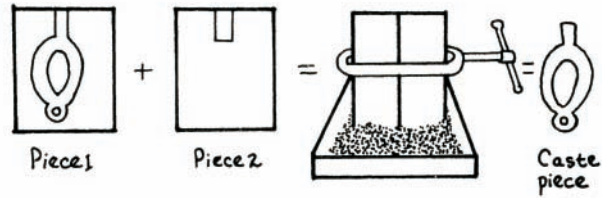

Figure 6.13
1. Mix plaster and pour it into the top and the bottom sections of the box to a depth of at least 1 in. Allow the plaster to set and dry. Each student will need two plaster pieces, one to carve and one for the back of a mold (see Figure 6.13).